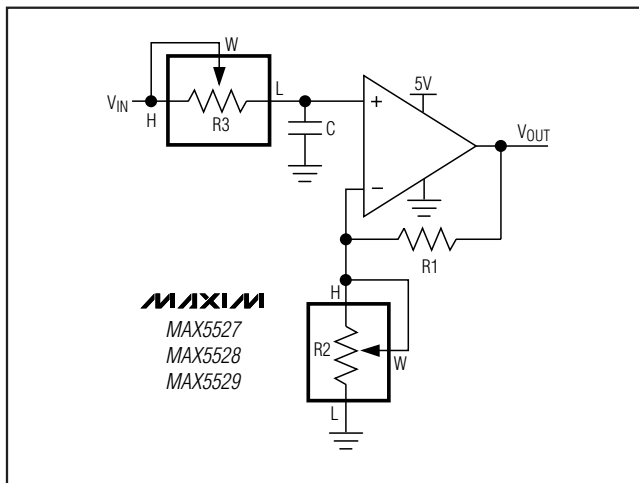

Figure 9. Programmable Filter
Figure 9 shows the configuration for a 1st-order programmable filter. The gain of the filter is adjusted by R2, and the cutoff frequency is adjusted by R3. Use the following equations to calculate the gain (G), and the -3dB cutoff frequency (f_C), only up to frequencies one decade below the wiper -3dB bandwidth.